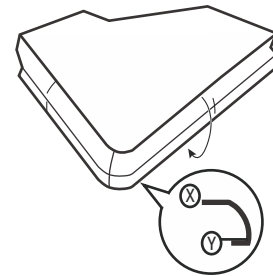

Figure 13. Apply adhesion promoter between X and Y
2. Apply adhesion promoter to the edges, starting about 1/2 inch from where the shape changes (see Reference X) and extending to the back side of the surface for at least 1/2 inch (see Reference Y). Allow the adhesion promoter to dry to improve adhesion and minimize shrinkage. See Figure 13, “Apply adhesion promoter between X and Y,” on page 12.